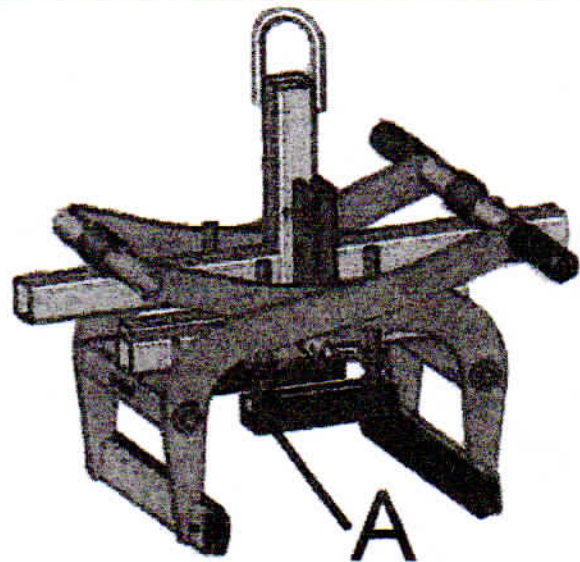
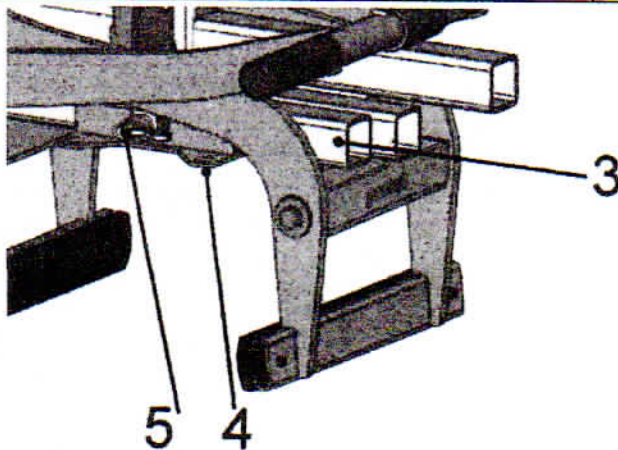

Fig. 2
Fig. 3
- The “height adjustable support (A) is attached to the “mounting plate of the height adjustable support” → see Fig. 2 (and Fig. 3)